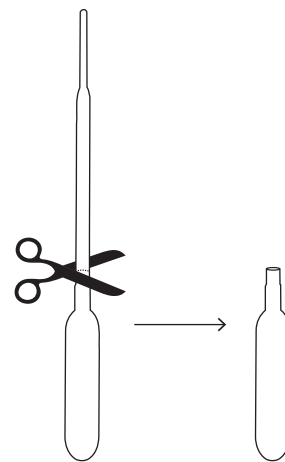

Figure 2.
21. Take a pipet and cut all but 2 cm of the stem (see Figure 2).